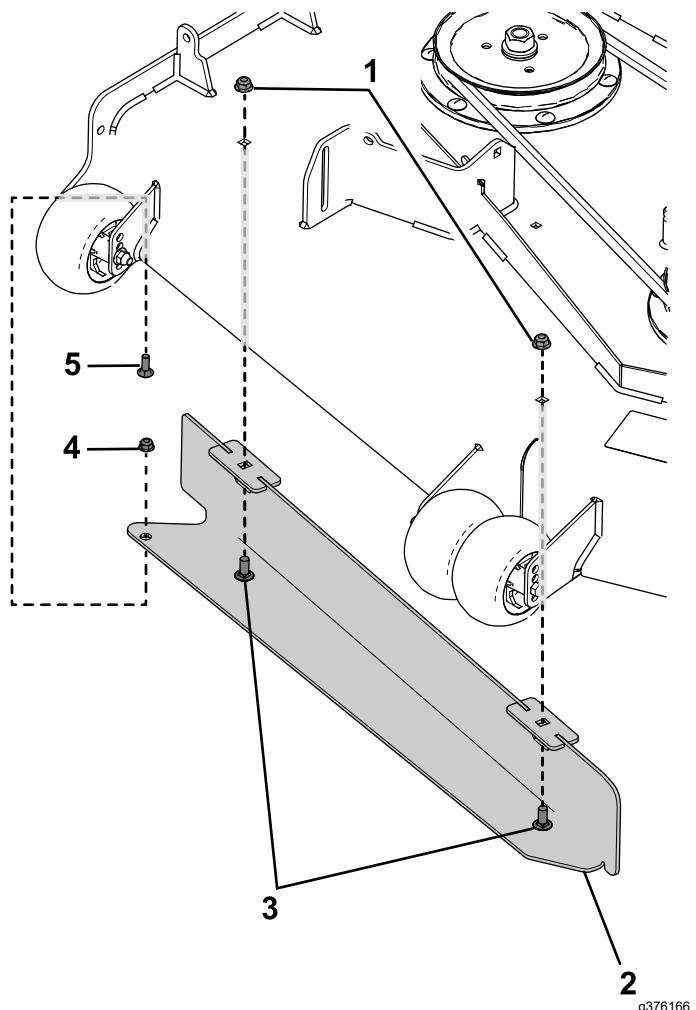
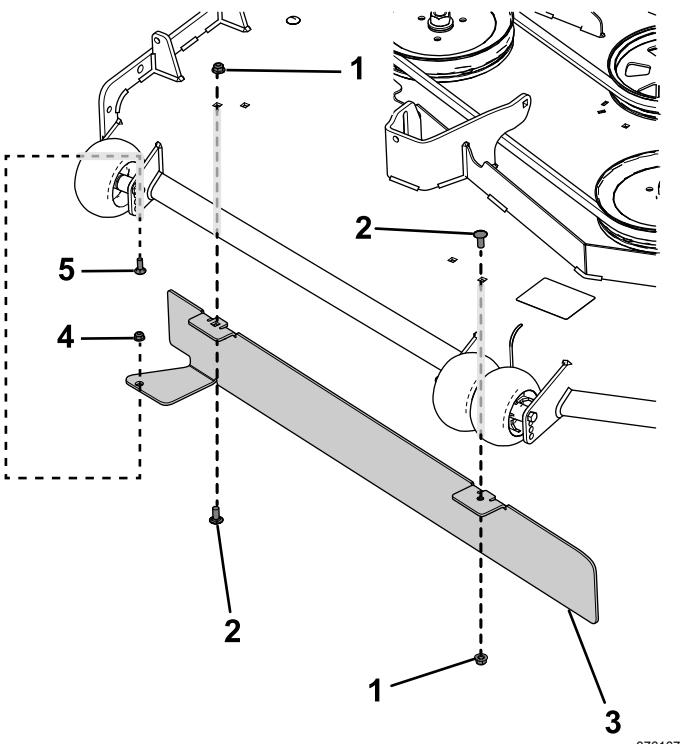

Figure 26
Figure 27
2. Install the baffle using the carriage bolt (5/16 x 7/8 inch), flange nut (5/16 inch), 2 carriage bolts (3/8 x 7/8 inch), and 2 flange nuts (3/8 inch) as shown in Figure 26 and Figure 27.